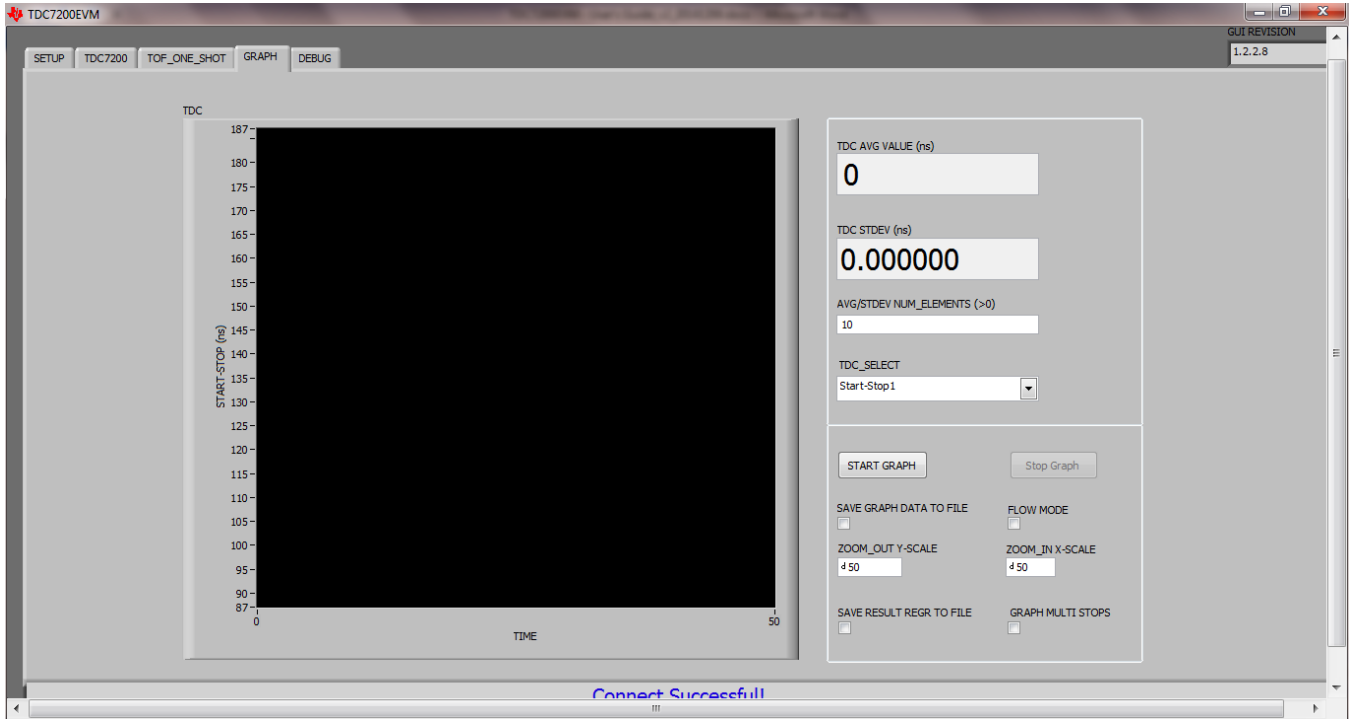

Figure 4. TDC7200 GUI
4. GUI should automatically connect and show the screen depicted in Figure 4.